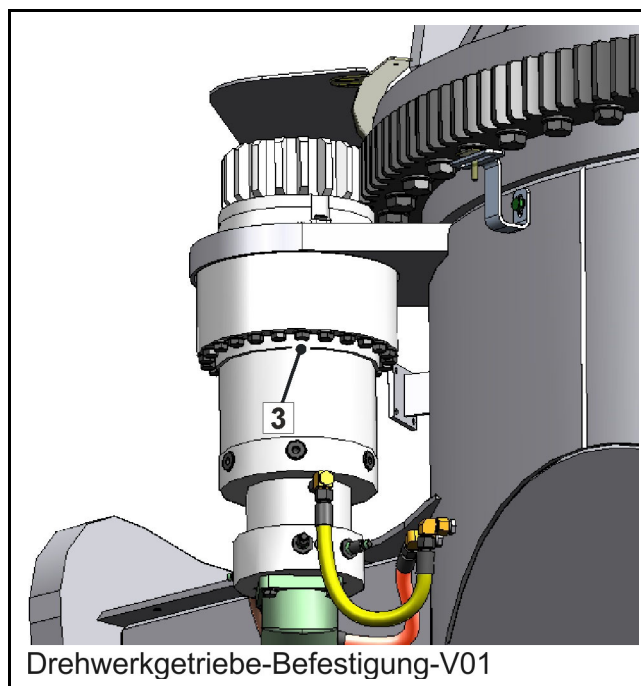

Fig. 311 Checking the fastening
Regularly check to make sure the screws are tight in accordance with the maintenance schedule (3) (**Fig. 311**).